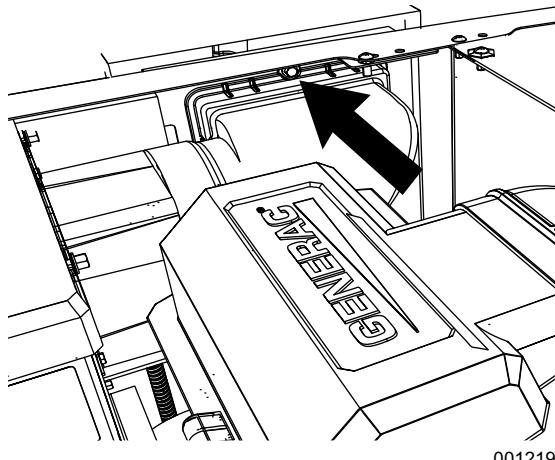

Figure 4-12. Removing the AVR Filter Screw
- See **Figure 4-12**. Remove screw to release AVR filter housing from back panel.
2. See "A" in **Figure 4-12**. Remove screw to release AVR filter housing from back panel.